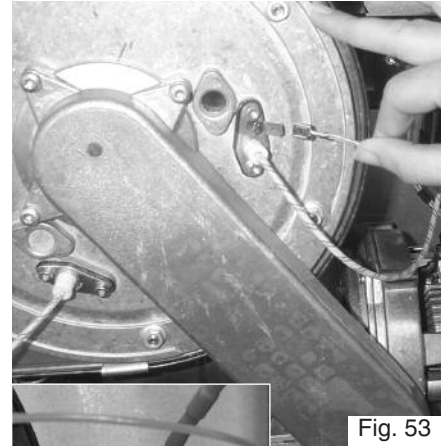

Fig. 53
4. Remove the earth cable from the ignition electrode (Fig. 53), and remove the ignition electrode cable from the ignitor (Fig. 54);